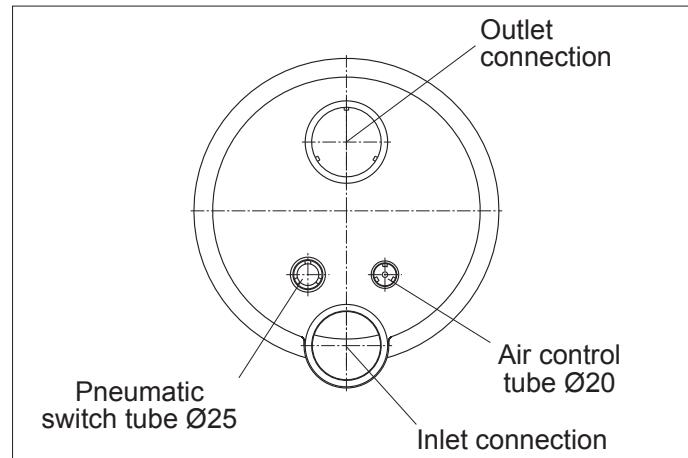
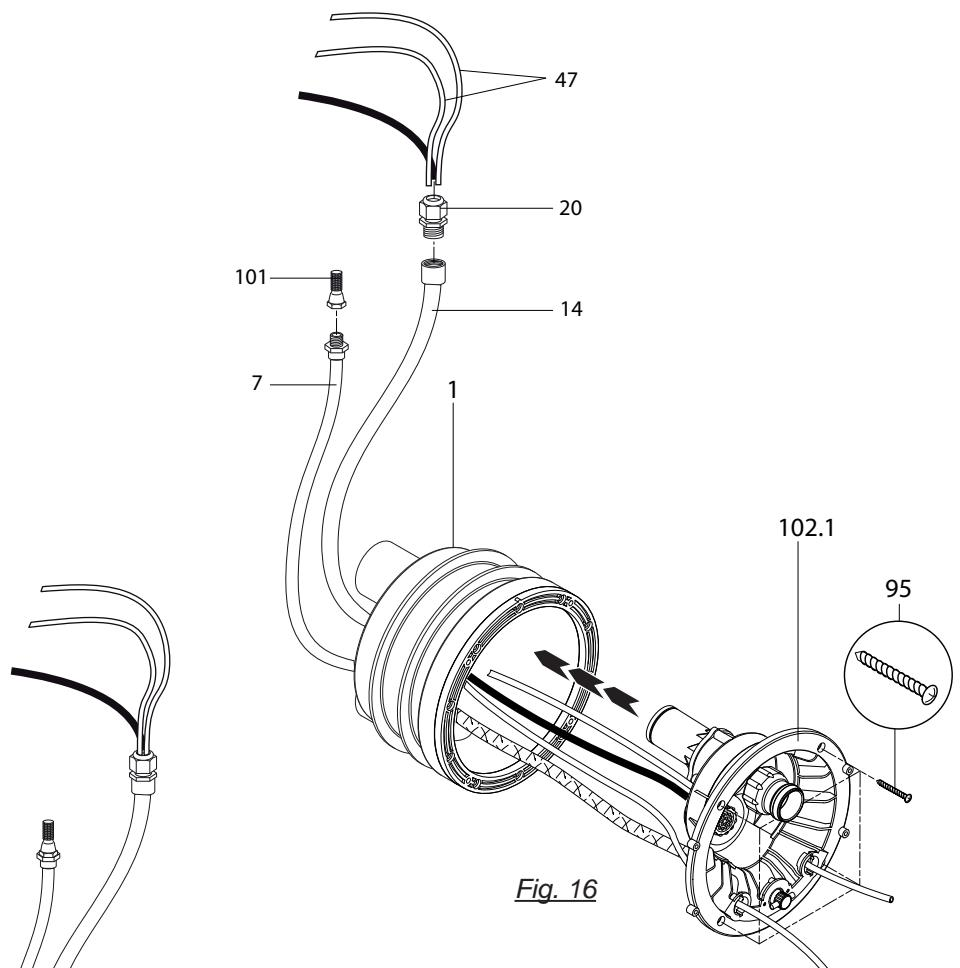

Fig. 9
Fig. 16
- 2) Glue in the cable protection hose and the air line hose. (Fig. 9)
- 3) Place the nozzle housing (102.1) onto the jet housing (1).
- 4) Insert the pneumatic hoses and cables of the floodlight through the protective hose (14) and seal using the screwed cable gland (20).
- 5) Use clamp (8) to fasten the air hose to the factory-mounted air regulator (21).
- 6) Fasten the nozzle housing (102.1) to the jet housing (1) using the 4 self-tapping screws (95). (Fig. 16)